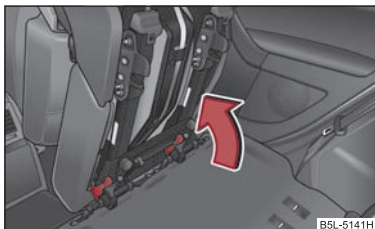

Fig. 64 Locking the seat
- Lock the seat at the end of the guide ⇒ fig. 64. ■
- If the seat is removed, first of all position it on the guide and lock the seat ⇒ fig. 64. Check for yourself that the seat is correctly locked by pulling it up.